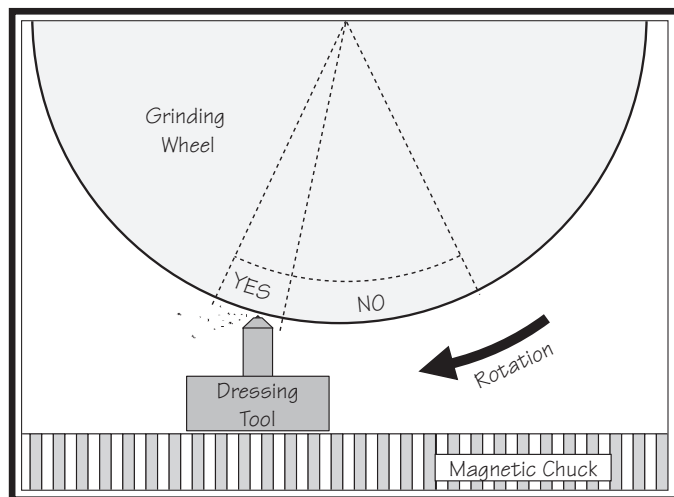

Figure 37. Safe tool positioning for wheel dressing.
Positioning is critical for the dressing tool so you will not shatter the diamond or have poor results. For best results and safe use, the dressing tool must be positioned in the trailing zone of the wheel, as shown in **Figure 37**. If the tool is positioned on the leading side of the wheel, the diamond will be shattered or even grabbed by the wheel and drawn under the grinding wheel, causing severe injury or property damage.
3. Position the tip of the dressing tool at the trailing side of the wheel, as shown in **Figure 37**, and move the table inward until the diamond tip slightly touches the edge of the grinding wheel. Verify by rotating the wheel by hand and listening for contact.